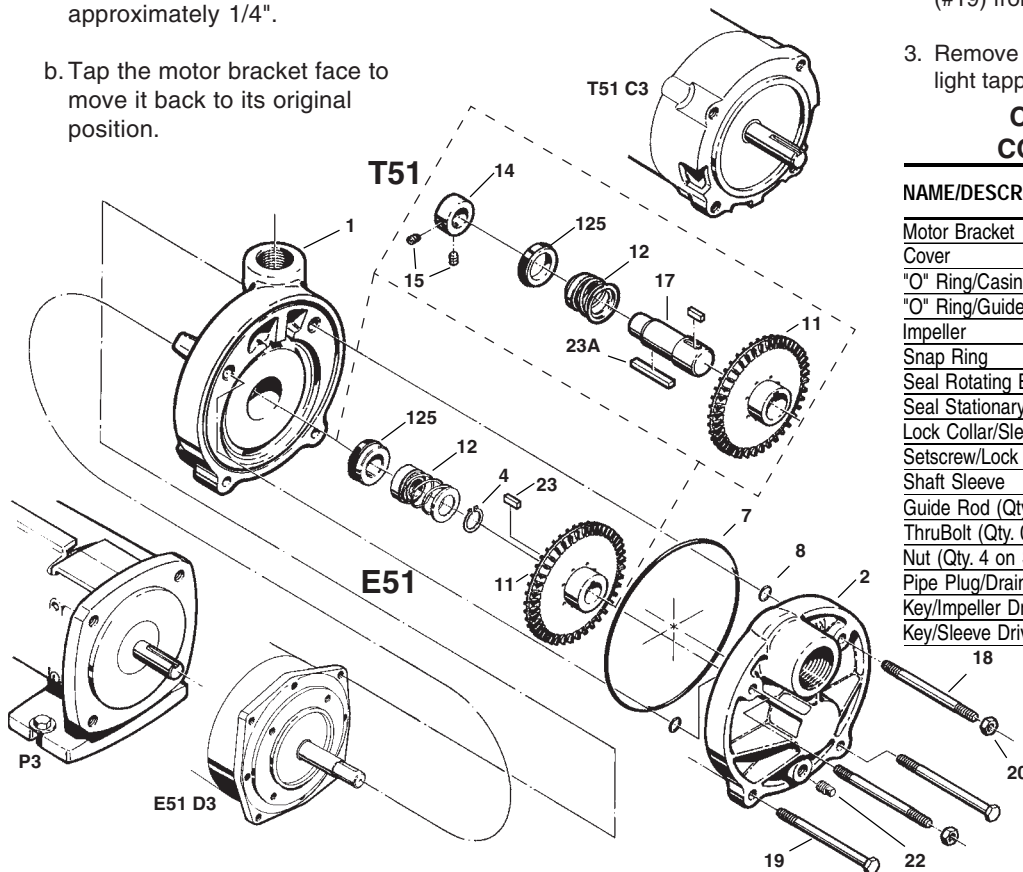

Figure 4-4
Refer to Figure 4-4 for reference to the numbered parts in the procedures below.
- c. The impeller hub should be facing out away from the motor bracket. Refer to Figure 4-4 and 4-5.